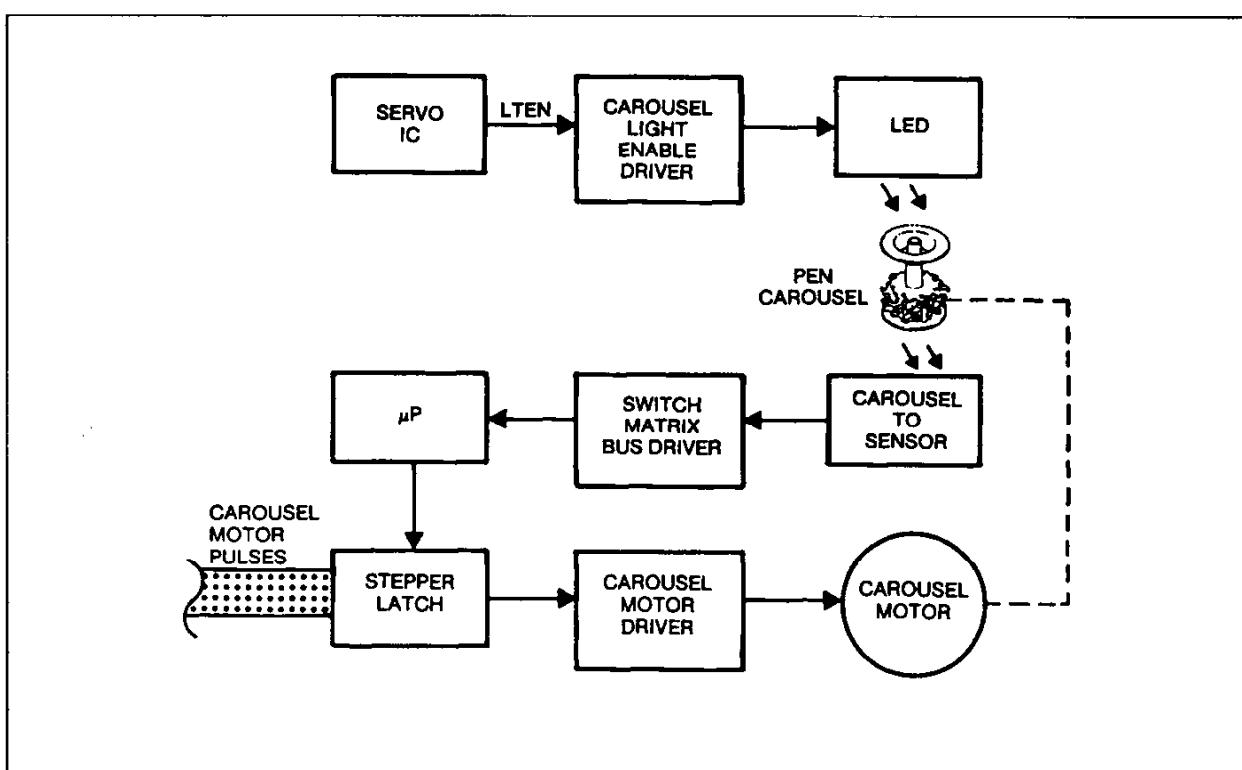

Figure 5-7. Motor Sensing and Drive Circuits
**5-55.** When first powered ON, the plotter performs an initialization sequence. During this initialization sequence, the pen carousel is rotated to determine the pen type, and then default parameters for pen speed and pen force are established. Pen type is sensed by a photosensor pair whose photo beam is interrupted by identification slots in the carousel body. A simplified diagram is shown in Figure 5-7. An enabling signal